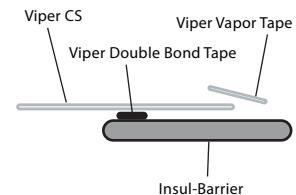

FIGURE 4
Step 5: Install Insul-Barrier on the floor. Floor liner should overlap wall and pier liner's bottom edge by a minimum of 6". All seams should be taped with Viper Vapor Tape. For extra strength, "double-lock" seams using a course of Viper Double Bond Tape between the overlapping layers (Fig. 4).